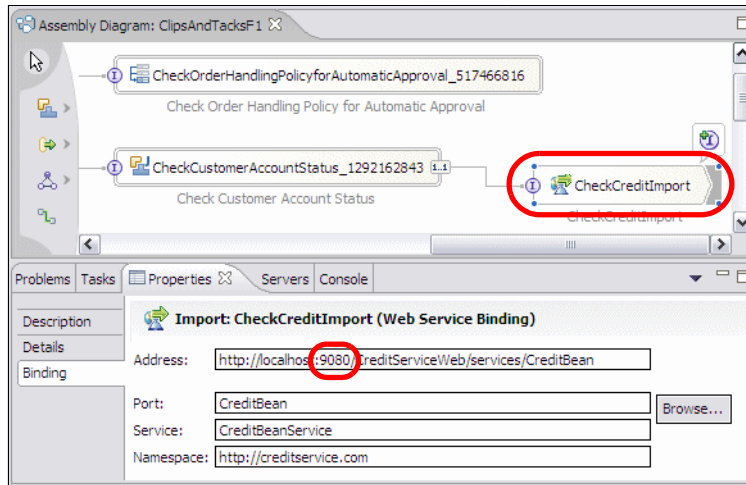

Figure 10-64 Change the Web service port on the Import binding
- In the Properties view, select the *Bindings* tab and update the port (Figure 10-64).